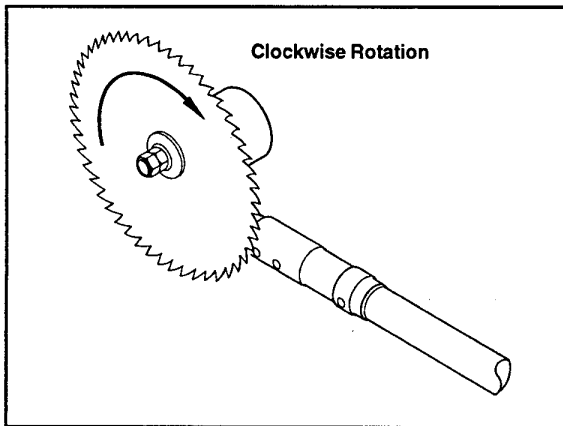

Figure 1. Correct Rotation Direction
2. Install the blade over the motor shaft and onto the fixed collar so that the points of the teeth on the blade are facing clockwise as viewed from the front of the motor (see figure 1).